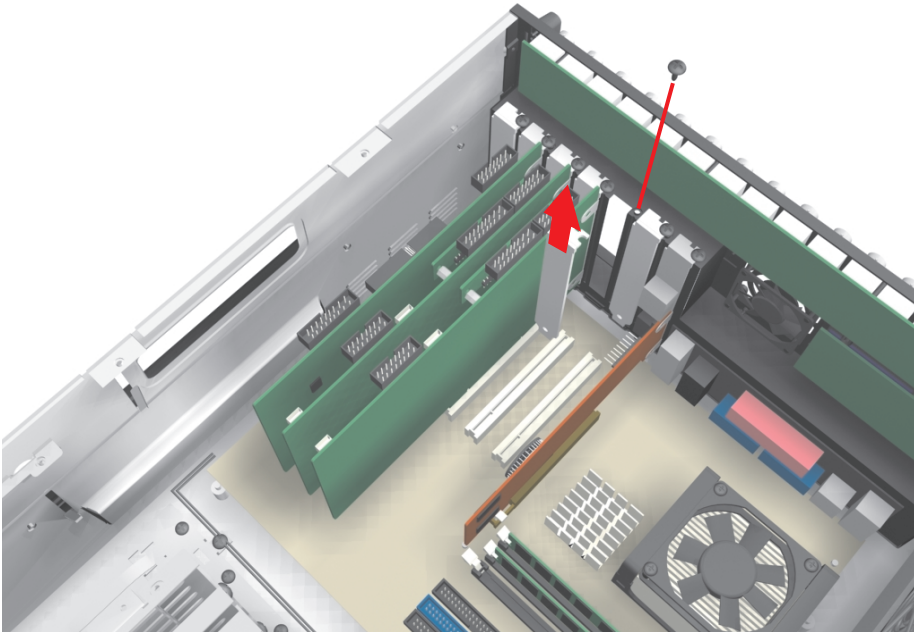

Figure 10. Slot Cover for PCI Slot 2
- a. Using a Phillips-head screwdriver, remove the screw that fastens the slot cover to the chassis. Refer to Figure 10. Retain this screw for use in step 4d.